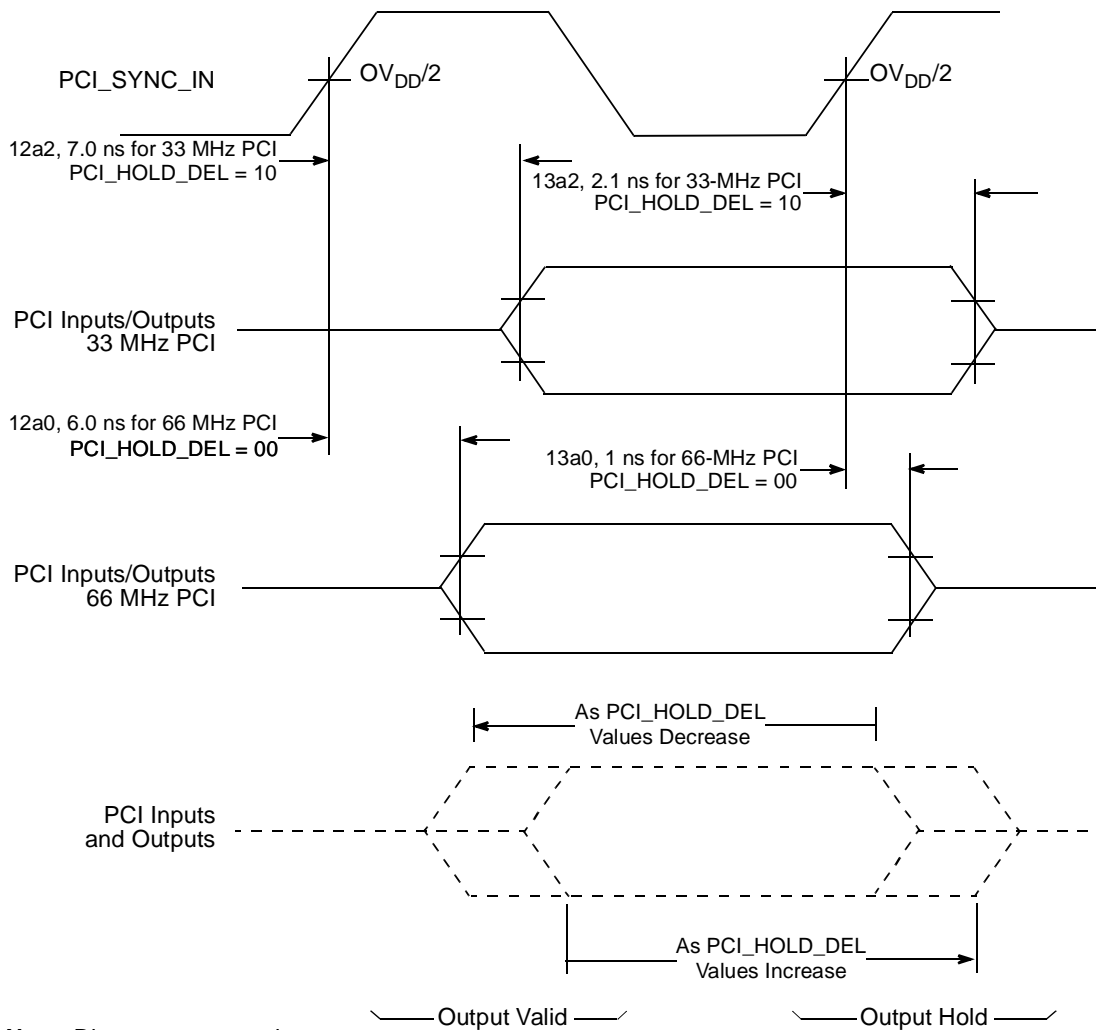

Figure 15. PCI_HOLD_DEL Effect on Output Valid and Hold Times
12a	PCI_SYNC_IN to output valid, see Figure 15
13a	Output hold (PCI), see Figure 15
4. To meet minimum output hold specifications relative to PCI_SYNC_IN for both 33- and 66-MHz PCI systems, the MPC8245 has a programmable output hold delay for PCI signals (the PCI_SYNC_IN to output valid timing is also affected). The initial value of the output hold delay is determined by the values on the \overline{MCP} and \overline{CKE} reset configuration signals; the values on these two signals are inverted and stored as the initial settings of $PCI_HOLD_DEL = PMCR2[5, 4]$ (power management configuration register 2 <0x72>), respectively. Since \overline{MCP} and \overline{CKE} have internal pull-up resistors, the default value of PCI_HOLD_DEL after reset is 0b00. Further output hold delay values are available by programming the PCI_HOLD_DEL value of the $PMCR2$ configuration register. Figure 15 shows the PCI_HOLD_DEL effect on output valid and hold times.
Figure 15 provides the PCI_HOLD_DEL effect on output valid and hold times.